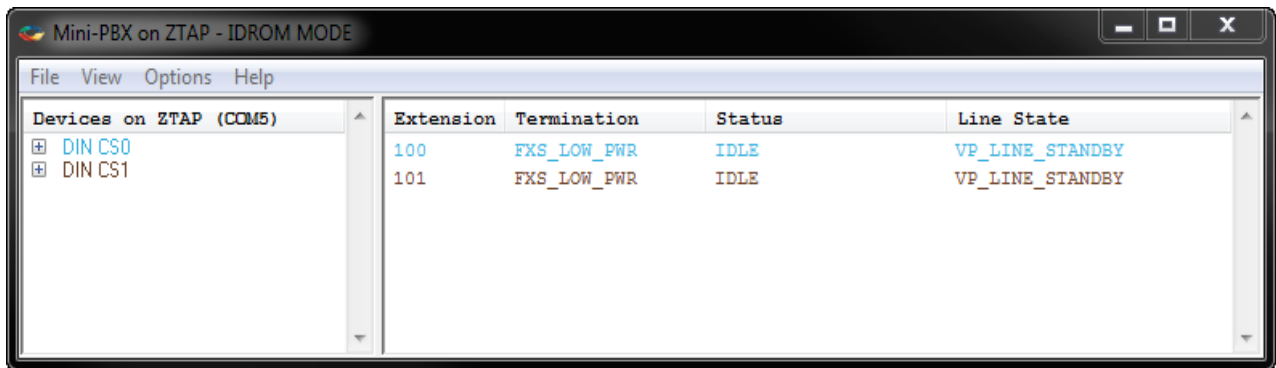

Figure 10 - Mini-PBX - Configuration Mode
4. Double click on the location of the line module. It is DIN CS0 or CS1 on the example shown in Figure 10 below.